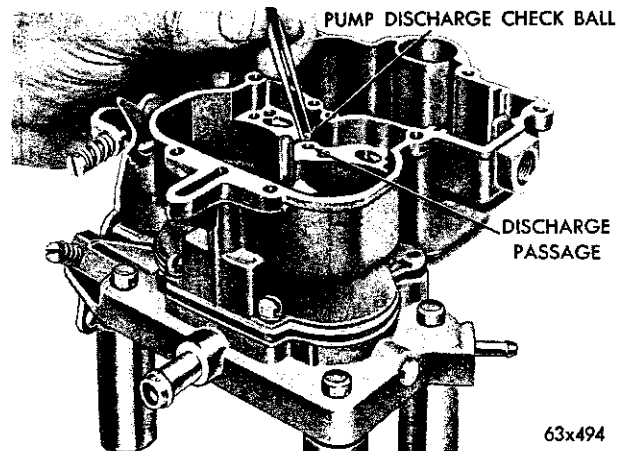

Fig. 13—Installing the Discharge Check Ball
(5) Install the accelerator pump discharge check ball ($\frac{1}{8}$ inch) in the discharge passage, as shown in Figure 13.